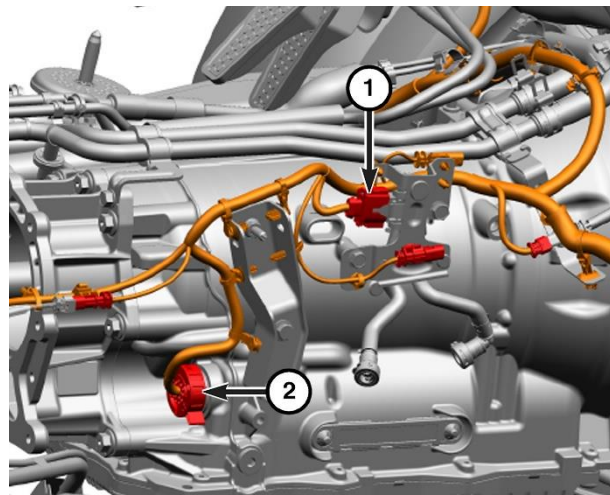

Figure 38 – Electrical Connectors
49. Disconnect the 13-pin plug connector (2). Turn the connector counter-clockwise to release (Figure 38).
50. Release all remaining wiring harness retainers attached directly to the transmission (Figure 38).
89. Connect the 13-pin plug connector. Turn the connector clockwise to lock. (Figure 38).
90. Install all remaining wiring harness retainers to the transmission (Figure 38).